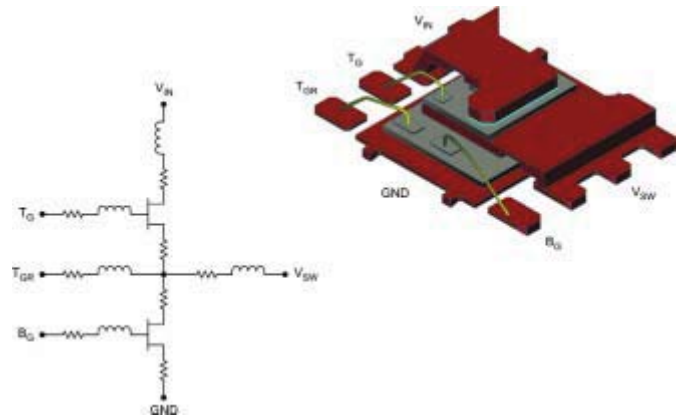

Figure 4: NexFET Power Block parasitic model package
3) The stacked configuration virtually eliminates the parasitic inductance and resistance between high- and low-side MOSFETs; and using thick copper clips substantially reduce parasitics associated with the V_{IN} and V_{SW} connections when compared to wire-bonded solutions. For a more detailed view of the package parasitics, refer to Figure 4. In general, reducing or even eliminating the buck converter's internal parasitic allows the system to switch faster and work at higher frequencies because of the reduced switching losses.